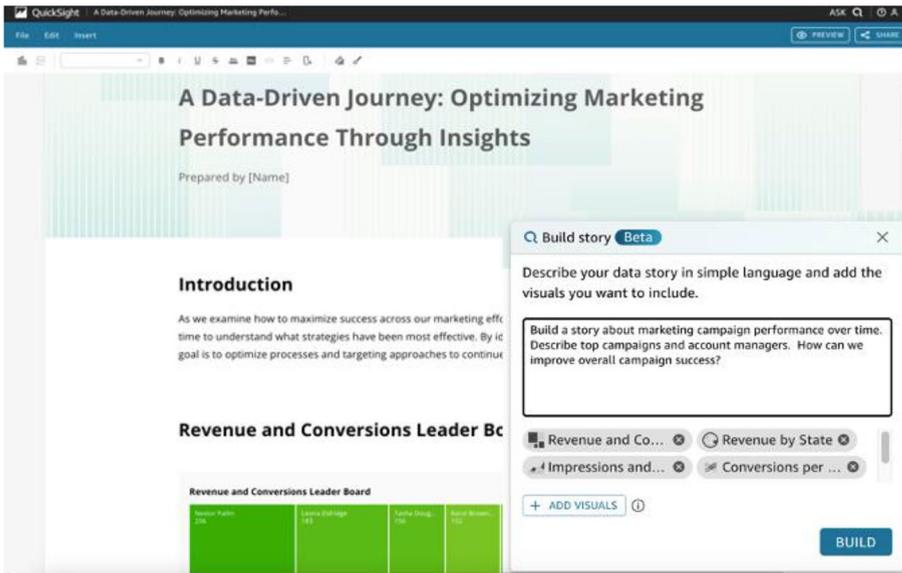

Figure 6-45. AI-assisted data storytelling
- **AI-assisted data storytelling:** This feature (see Figure 6-45) enables business users to discover and share findings from their data to drive team decisions.